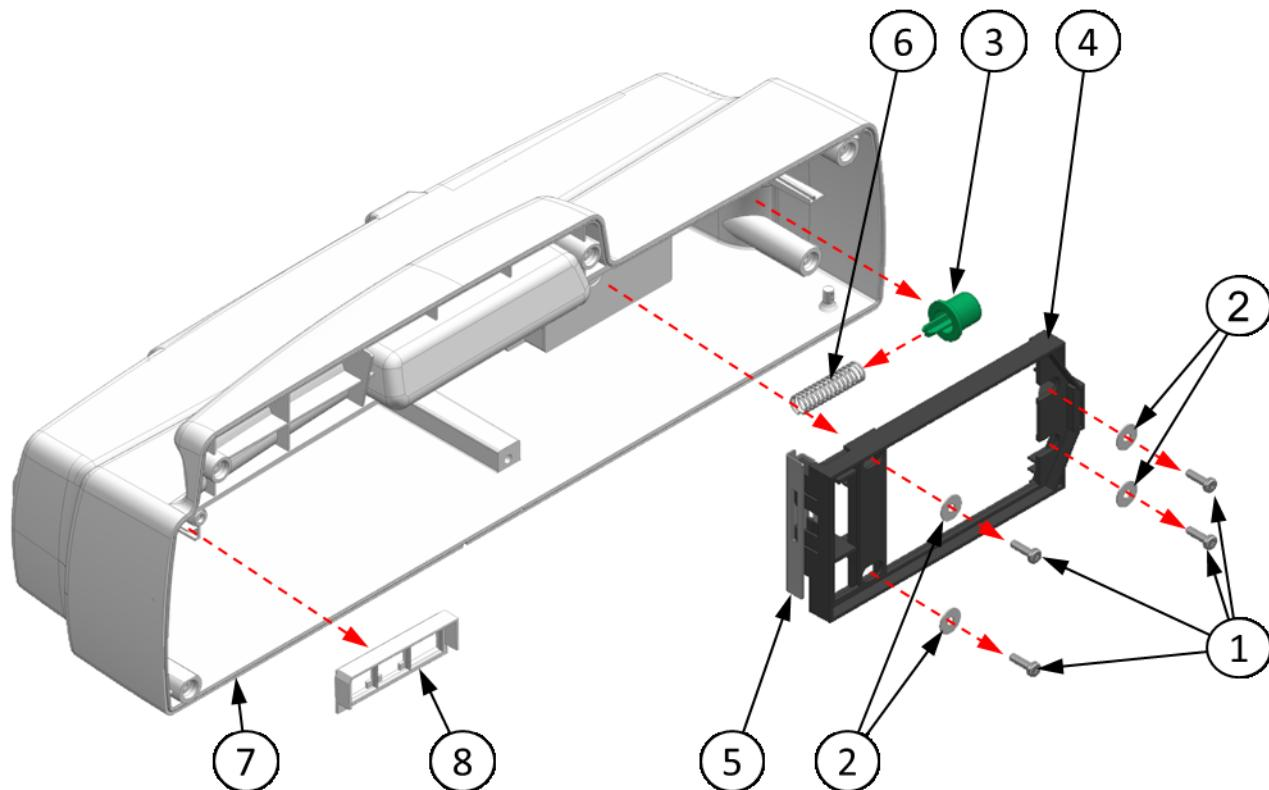

Fig. 80 Back case set removal/installation
5. Remove the **Sockets bezel (8)** from the **Back case (7)** by pressing with finger from the outside.
6. Using the **TB-2** screwdriver unscrew four **3x10 screws for plastic (1)** with **Metal washers 3,2x10x0,5 (2)** as shown in **Fig. 80**.
7. Press the **Latch button (3)**. Carefully remove the **Latch body (4)** with the **Metal latch (5)** as shown in **Fig. 80**.
8. Using the curved tweezers **TA-15** and pressing the **Latch button (3)** carefully remove the **Latch spring (6)** together with the **Latch button (3)** as shown in **Fig. 80**.
1. Insert the **Sockets bezel (8)** into the **Back case (7)** opposite to the direction indicated by the red arrow in **Fig. 80**.
2. Using a paper tower soaked with the **TB-11** alcohol clean the lubricant from the **Latch body (4)** and the **Metal latch (5)**.
3. Using the curved tweezers **TA-15** insert the **Latch button (3)** in a **Back case (7)** hole. Next put the **Latch spring (6)** on the central pin of the **Latch button (3)** simultaneously pushing the spring until it leans against the wall of the **Back case (7)**. Perform the assembly opposite to the direction indicated by red arrow in **Fig. 80**.
5. Pressing the **Latch button (3)** carefully insert the **Latch body (4)** together with the **Metal latch (5)** into the **Back case (7)** in a way that the flange of the **Latch button (3)** slides into the grooves of **Latch body (4)**. Perform the assembly opposite to the direction indicated by red arrow in **Fig. 80**.
6. Using the **TA-41** with the bit **TA-42** screw four **3x10 screws for plastic (1)** with **Metal washers 3,2x10x0,5 (2)**. Perform the assembly opposite to the direction indicated by red arrow in **Fig. 80**.
11. Using a permanent marker write on the **S/N REF sticker** placed on the bottom of the **Back case (7)** the same serial number as on the old sticker and then protect it by sticking a transparent label onto it.